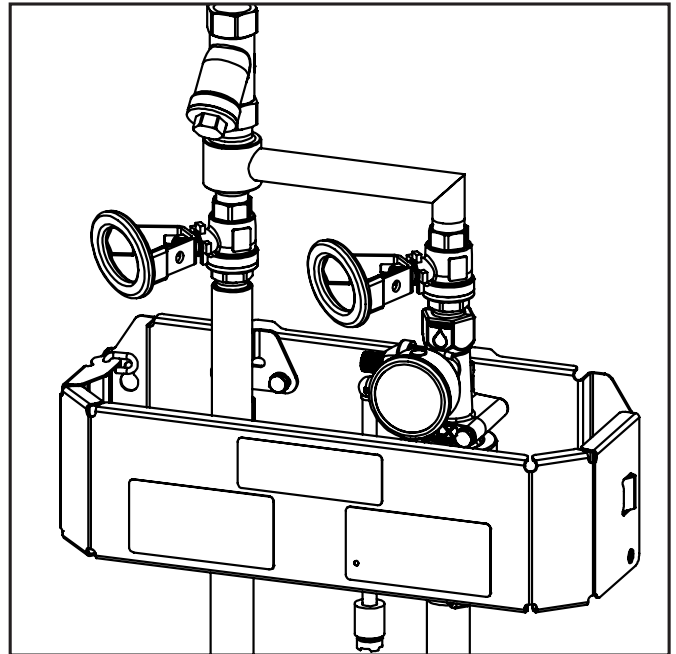

Fig. 7.1: Water supply ball valves closed.
1. Ensure systems are properly connected and the water valves are closed [Fig. 7.1]